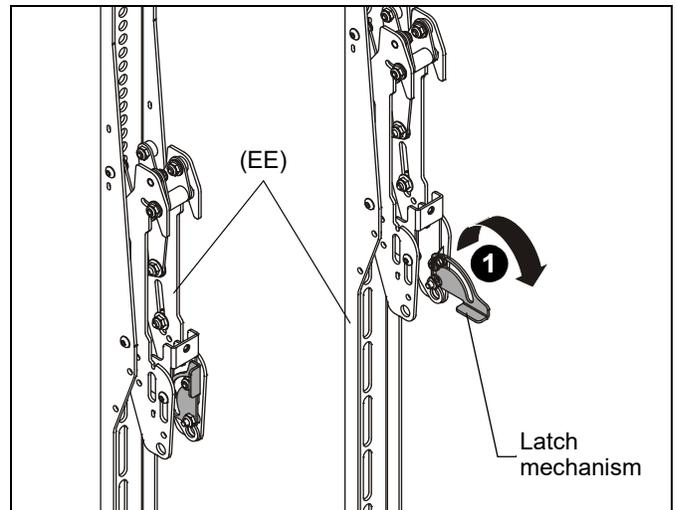

Figure 15
- Lower the latch mechanism on each interface bracket (EE). (See Figure 15)
1. Ensure that the latch mechanisms on interface brackets (EE) are already lowered. (See Figure 15)